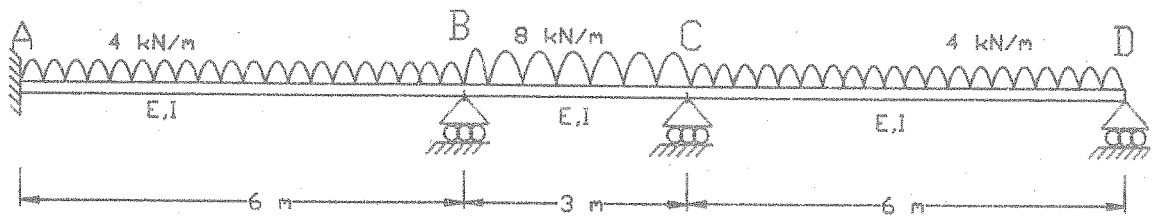

Fig. Q2
- Q2 Fig. Q2 shows a continuous beam ABCD with transversely applied uniformly distributed loads. Support A is fixed while support B, C, D are on rollers. The beam ABCD is a steel girder having second moment of area about the axis of bending equal to $1.5 \times 10^{-6} \text{ m}^4$ and the Young's modulus of 200 GPa (kN/mm^2).